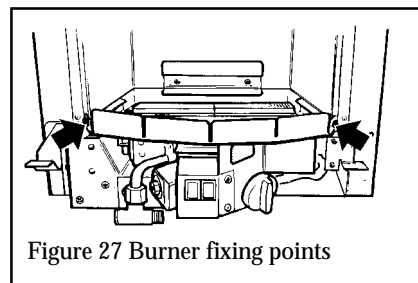

Figure 27 Burner fixing points
14.3.4 Detach the burner unit from the convection box by removing 2 screws (see figure 27). Carefully lift the burner unit forward making sure that the unit does not snag on any leads. Rest the burner on its front face to allow access to the pilot and gas tap.